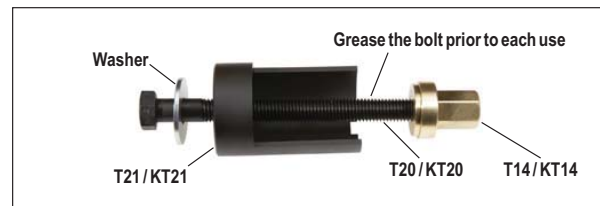

FIGURE 74 - SHORT GUIDE PIN REMOVAL TOOL
5.6.16 Use the tool combination shown in Figures 74 and 75 (comprising T14, T20, T21, and a washer) to remove the bushing (6). Screw nut (T14) onto the assembly by hand, then tighten the bolt (T20) using a box end wrench to draw out the bushing. Discard the removed bushing, and verify that the bore is clean by wiping with a shop cloth.